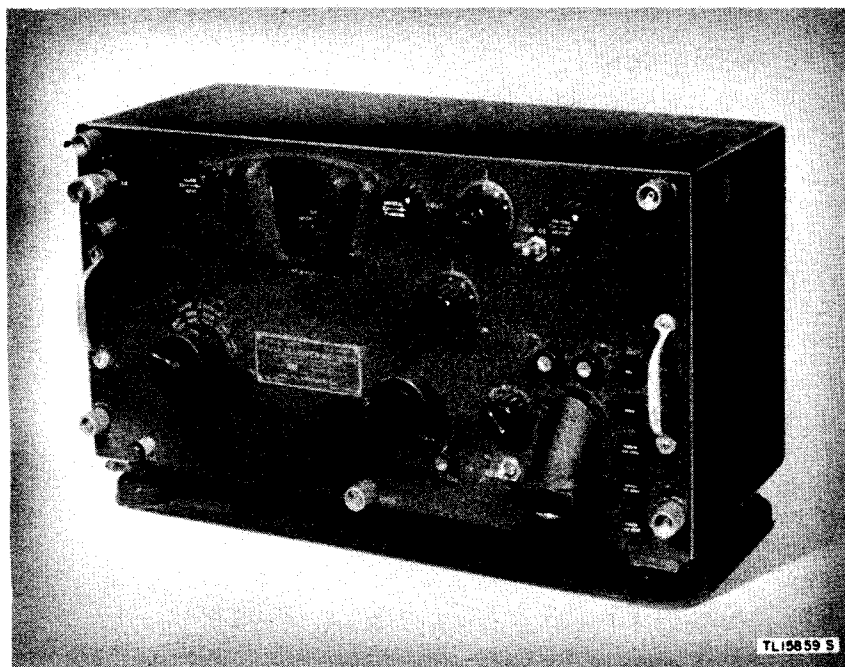
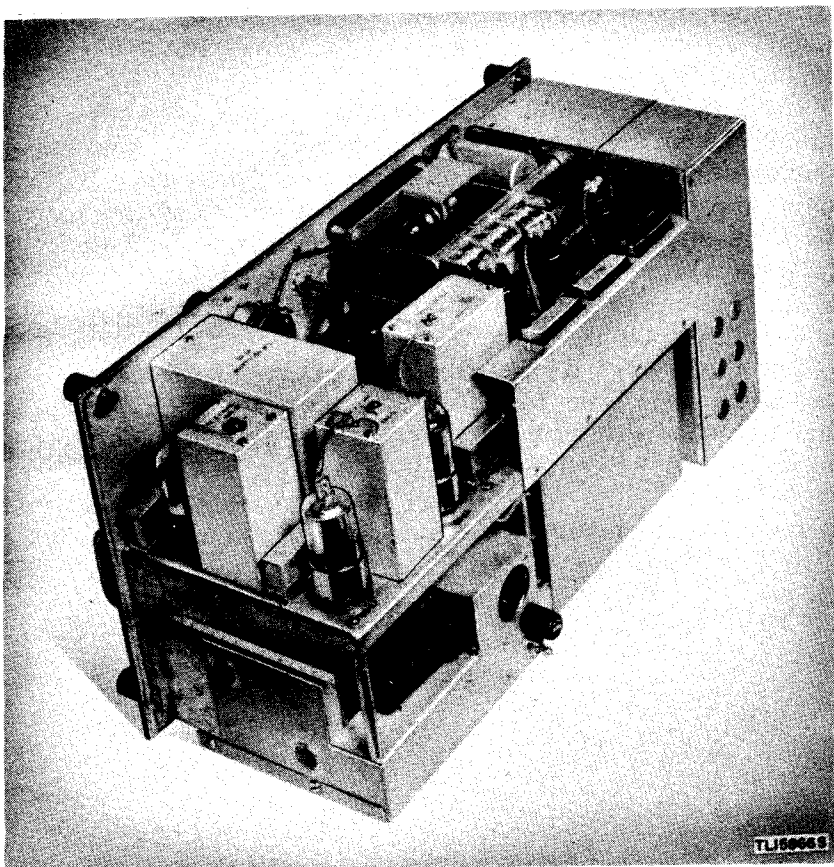

Figure 4. Radio Receiver BC-312-G.
Figure 9. Radio receiver, top view, case removed.
and inside chassis are made of metal. The internal parts of the receiver are thoroughly shielded by means of metal inclosures as shown in figure 9. The various compartments and shield cans are clearly marked and are easily identified. Aluminum was used in early models but substitutes have been used in later models. The outside surfaces of the cabinet and the front of the panel are finished in black. The whole panel-chassis assembly slides in and out of the cabinet readily and is locked firmly in place in the cabinet by means of five knurled locking screws of the captive type. Convenient handles are located on the vertical sides of the front panel. Front views of Radio Receivers BC-312-(*), BC-342-(*), and BC-314-(*) are shown in figures 4, 5, and 6, respectively. The front panel of Radio Receiver BC-344-(*) is identical to that of Radio Receiver BC-314-(*). Due to minor variations in design, certain receiver models may vary slightly in appearance from those shown.
(1) A disabling circuit which disables the receiver when the transmitter is operating. Connections to the disabling relay are made through pins N and J of socket SO1.
(2) A sidetone circuit which amplifies a portion of the audio voltage from the transmitter to be used as sidetone in the receiver output. Connections to the sidetone circuit are made from pin H of socket SO1 to ground.
(3) A microphone and a keying jack are mounted on the receiver front panel for use with a microphone or key at the receiver location to modulate or key an associated radio transmitter. Connections to the MICRO jack are made through pins E and U in socket SO1. Connections to the KEY jack are made through pin N in socket SO1 to ground.
b. VACUUM TUBES. (1) The receivers are ordinarily issued with tested radio tubes installed. The tubes should not be interchanged or removed unless they become defective; changing them may cause misalignment of the radio-frequency (r-f) circuits. Check that all tubes are in place and are firmly seated in their sockets. Except for the r-f oscillator and c-w oscillator tubes, all tubes are readily accessible when the chassis is removed from the receiver cabinet. (See fig. 9.)
(2) To reach the r-f oscillator tube socket, loosen the two screws near the top of the r-f oscillator compartment and lift the hinged cover over the rear third of this compartment.
(3) To reach the c-w oscillator tube socket, remove the screw at the top and the screw about halfway down the center of the right side of the oscillator compartment. *Loosen, but do not remove*, the screw at the bottom rear and the screw halfway down the left side of this compartment. Lift off the compartment cover.